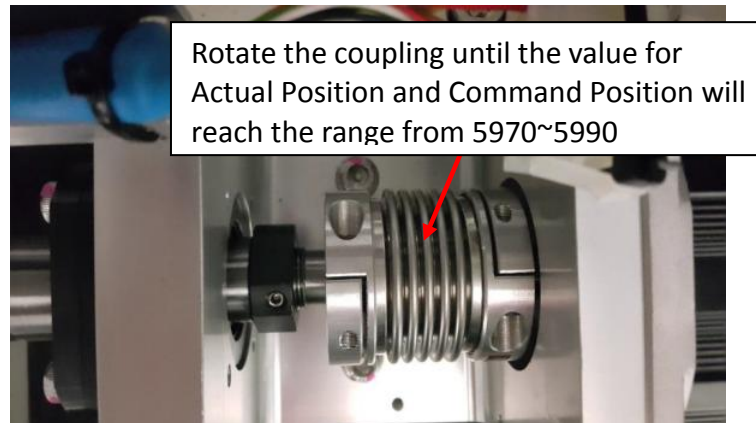
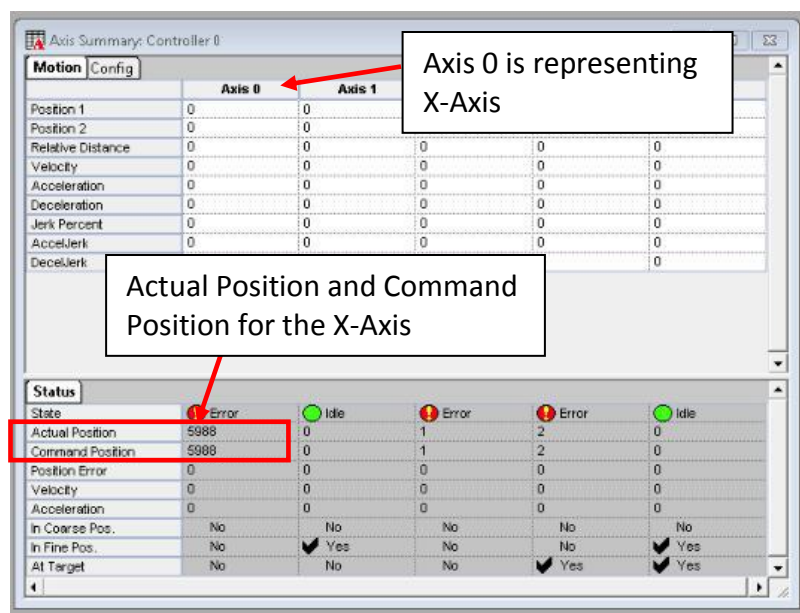

Figure 16 X-axis coupling screw
Figure 17 Actual Position and Command Position
27. Gently rotate the coupling for the X-Axis stage as shown in the Figure 16 until the Actual Position and Command Position in Figure 17 become 5990.